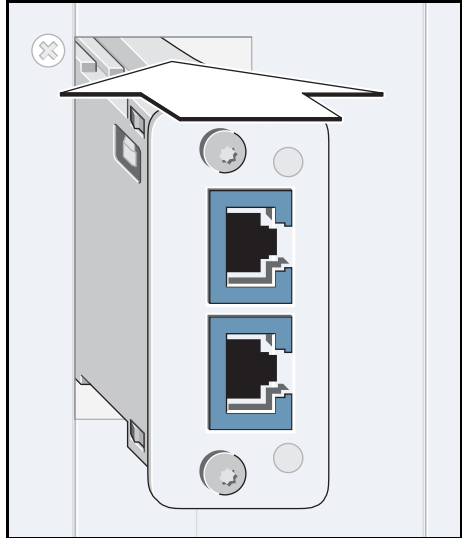

Fig. 2: Example: Plugging in the interface module
2. Insert the IMecat interface module in the provided slot at the system component until it reaches the stop (example in fig. 2)